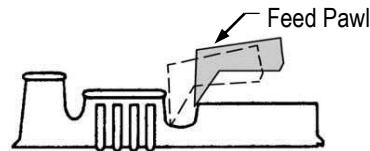

Figure 9
2. Watch the feed pawl as the machine is hand-cycled (or slowly cycled) several times. It should have enough over-travel on the backstroke to pick up the next terminal, but not so much over-travel that the feed pawl moves up onto the body of the terminal (see Figure 9).
- c. Using the backstroke adjustment knob (see Figure 2), position the feed pawl to the proper back position, typically the end of the wire barrel (see Figure 9). If the end cap is in place, use a 3-mm hex wrench or small screwdriver to reach through the end cap to rotate the feed adjustment knob. The adjustments are in 0.08-mm [.003-in.] increments or 30 degrees and can be felt as clicks.